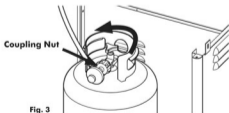

Fig. 3
5. With the regulator hose connected to the LP Gas Cylinder, turn the knob on the Cylinder counterclockwise. (Fig. 3)
- If leak appears at either end of hose and regulator assembly, retighten the connection at the leak, but do not over-tighten. (NOTE: Only hand tighten at coupling nut in Fig. 3 shown on previous page) Repeat Leak Test.